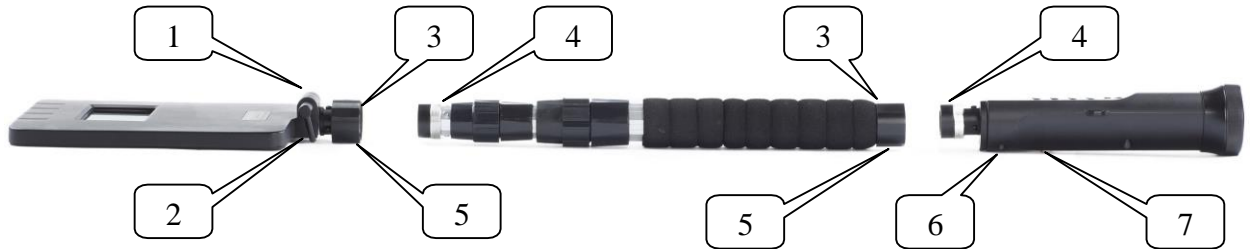

Fig. 4, where
4.4. Flexible joint of the replaceable transmitter head with a plug connection (Fig.4) is used to fix the head in the position convenient for inspection and search.
4.5. Plug connections of transmitter heads with a panel-handle and a removable telescopic arm enable an operator to make NLJD from an inspection one into a search one and vice versa. A construction of detaching connections of NLJD is given in Fig.4.
4.9. Headphones (1-16) are connected to a socket (7-4) of the control panel shown in Fig. 4.